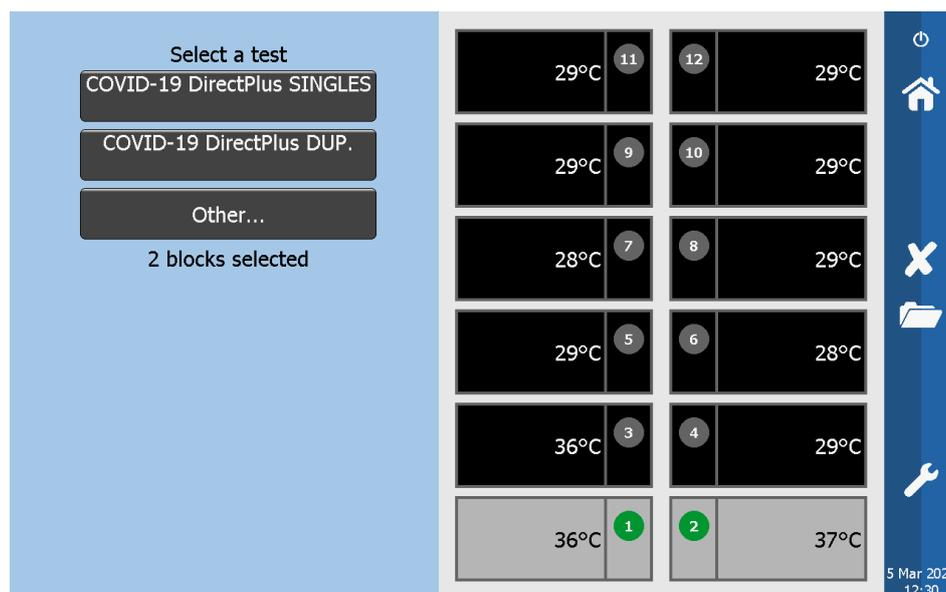

Figure 3. RT-LAMP Direct Plus profiles on a Genie[®] HT instrument.
- 9.5.4. Select the heat blocks required and either the SINGLES or DUPLICATES COVID-19 Direct Plus profile, depending on whether samples are being run in single or duplicate reactions (Figure 3). See Figure 4 for the RT-LAMP profile.